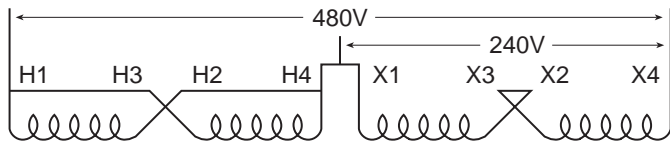

Figure 1
**36. Can 4-Winding Single Phase Transformer be auto-connected?** Yes. There are occasions where 480 volts single phase can be stepped down to 240 volts single phase by autoconnecting a standard 4-winding isolating transformer as shown in Figure 1. If connected in this manner, the nameplate KVA is doubled. For example: A 10 KVA load can be applied to a 5 KVA 4-winding transformer if connected per Figure 1.